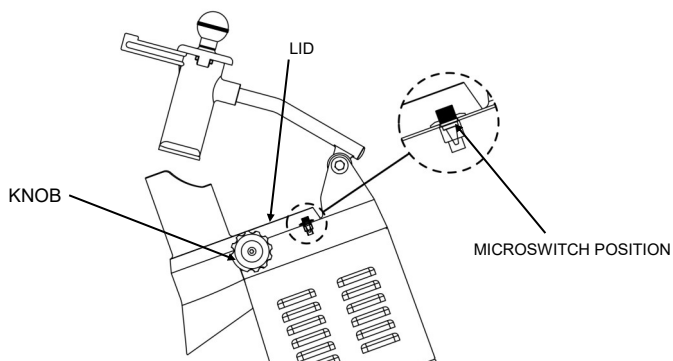

Fig 4: Knob and Lid Interlock
- b) On the hopper, if the lid is opened. The lid must be closed and the knob secured to operate the machine. (Fig 4 and 4A)